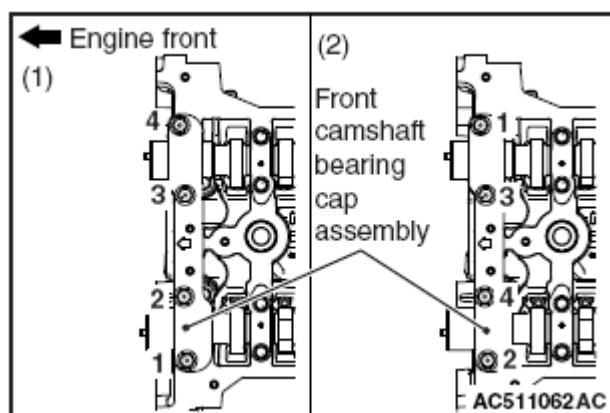

Fig. 104: Identifying Front Camshaft Bearing Cap Bolt Tightening Sequence
1. Install the front camshaft bearing cap to the cylinder head, and temporarily tighten the front camshaft bearing cap to the specified torque in the order of the **Fig. 104**.
2. Tighten the front camshaft bearing cap again to the specified torque in the order of the **Fig. 104**.